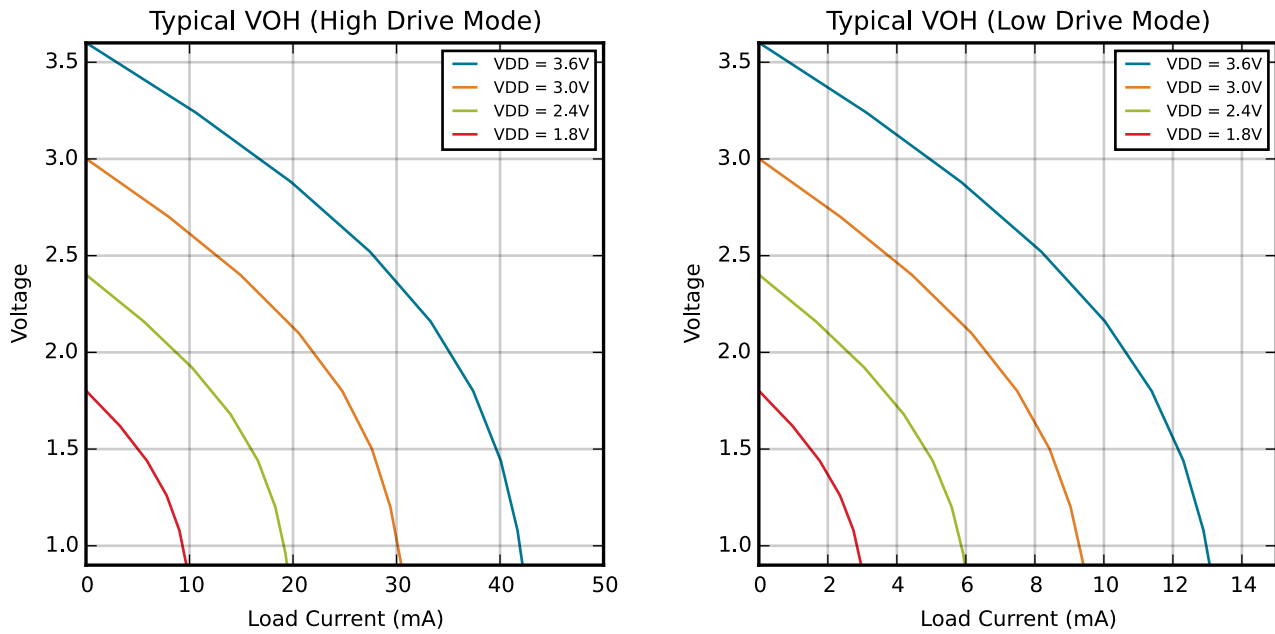
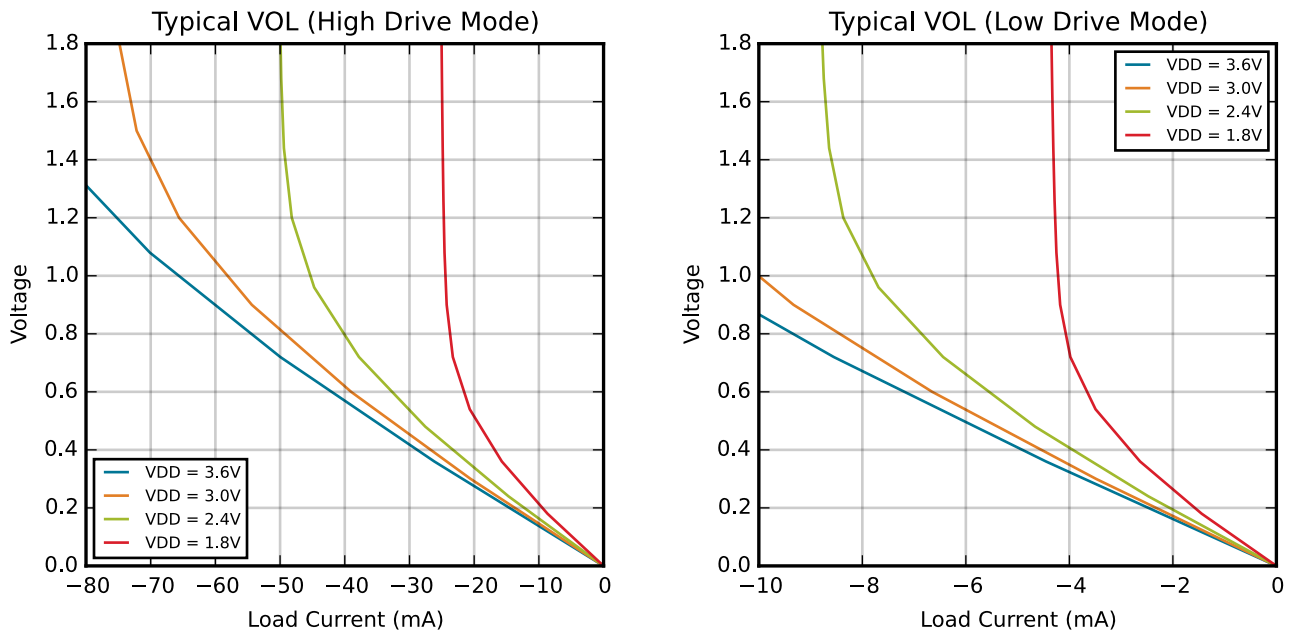

Figure 4.3. Typical  $V_{OH}$  Curves
Figure 4.4. Typical VOL Curves
1. See Figure 4.3 Typical VOH Curves on page 32 and Figure 4.4 Typical VOL Curves on page 33 for more information.